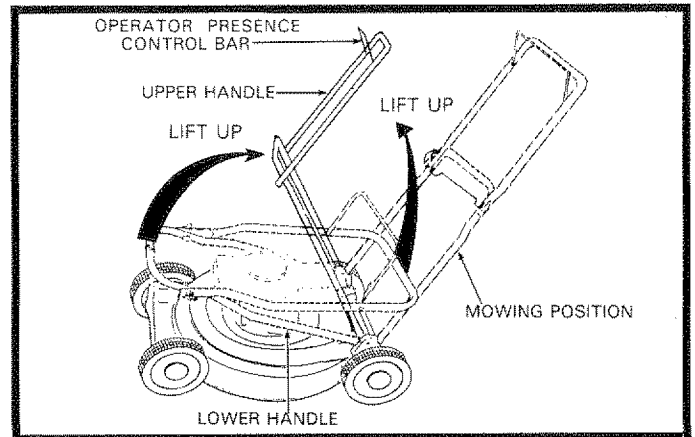

FIG. 1
- Raise handles until lower handle section locks into place in mowing position (See Fig. 1).